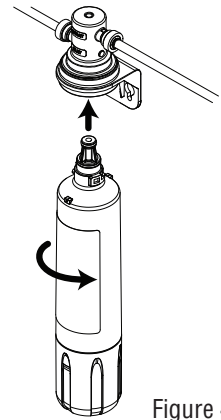

Figure 4
- Referring to the "Using Push-In Fittings" section, insert the blue tubing coming from the 1/4" Feed Water Adapter into the INLET fitting as shown in Figure 4.
- After installing the faucet as detailed below, insert blue tubing to faucet into OUTLET fittings, as shown in Figure 4.
- Align tabs of filter cartridge with head assembly and insert filter cartridge into head assembly. Turn filter cartridge counter clockwise until it stops (about 1/4 turn). The filter is now installed. (See Figure 4).
- Turn water supply back on from the shutoff valve on cold water line. This will pressurize the filter system and begin sending filtered water to the faucet. Look for leaks. **If leaks occur, see Troubleshooting Guide. Flush the filter for four (4) gallons (approx. 5 minutes) to remove any trapped air.**